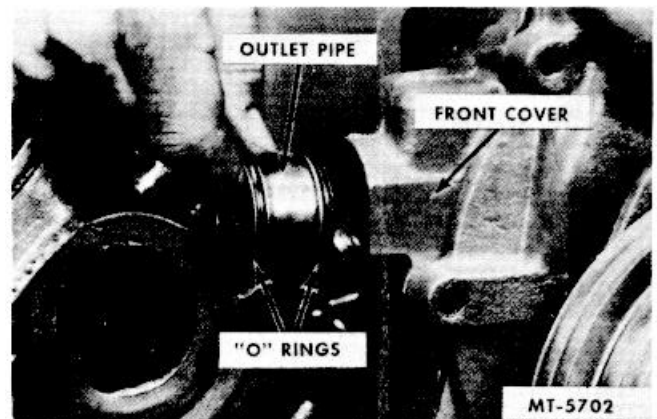

Fig. 40 Removing Water Outlet Pipe and "O" Rings
34. Remove water outlet pipes and "O" ring gaskets from engine front cover (Figure 40).